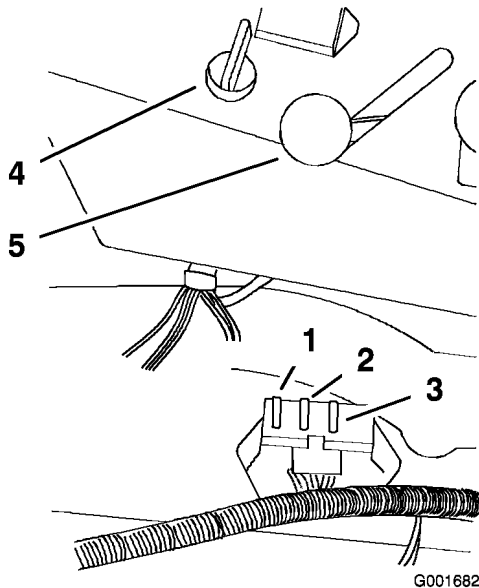

Figure 40
1. Raise the seat to gain access to the fuse holder (Figure 40).
3. Install a new fuse (Figure 40).